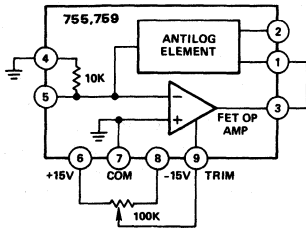

Figure 3. Trimming  $E_{OS}$  in Log Mode
**Trimming  $E_{OS}$**  — The amplifier's offset voltage,  $E_{OS}$ , may be trimmed for improved accuracy with the models 755, 759 connected in its log circuit. To accomplish this, a  $100\text{k}\Omega$ , 10 turn pot is connected as shown in Figure 3. The input terminal, Pin 4, is connected to ground. Under these conditions the output voltage is: